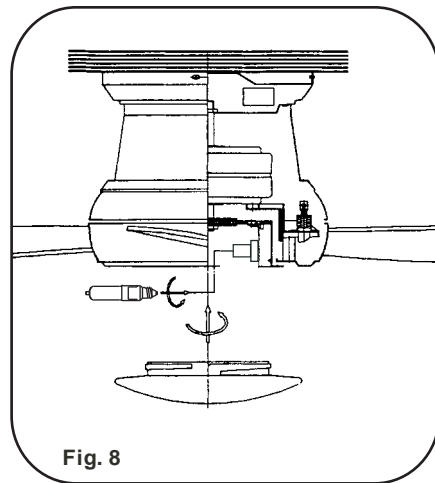

Fig. 8
Step 1. Install 1x100W halogen bulb (included) into bulb socket. (Fig. 8)
Step 2. Raise glass shade up against bottom of fan housing and secure it to the fan by turning the glass shade clockwise until snug. **DO NOT OVERTIGHTEN.** (Fig. 8)